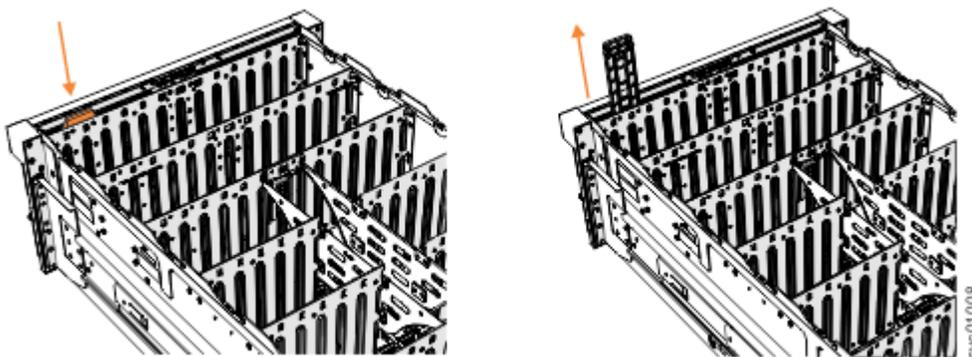

Figure 128. Removing the display panel assembly
3. Press the release tab at the top of the display panel assembly, as shown in Figure 128 on page 117.